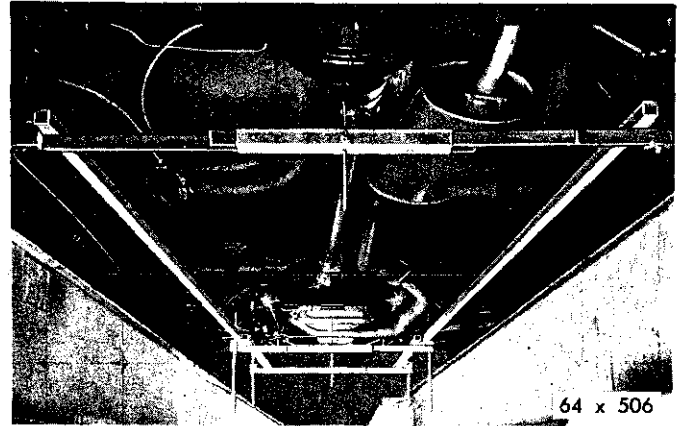
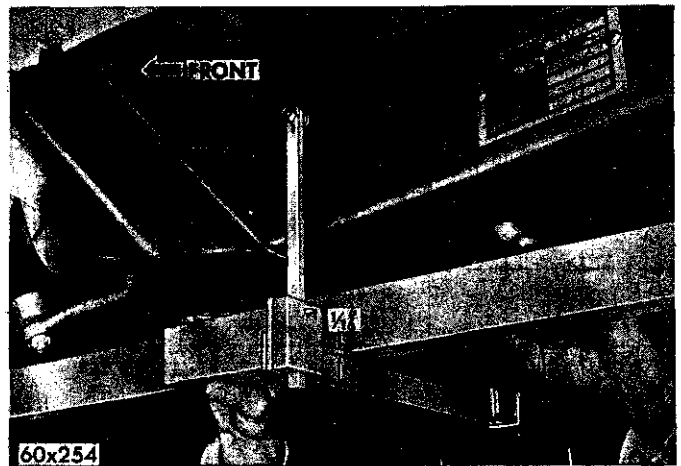

Fig. 15—Horizontal Measuring Bars in Position
Fig. 16—Measuring Body to Frame Alignment
(3) Place the horizontal alignment bars on the suspended gauges. The short bars are positioned on the front and center gauges and the long bars are positioned on the center and rear gauges, as shown in Figure 15.
(4) The long and short bar should be placed against each other to determine if any body to frame deflection is evident.
(5) The top and bottom surfaces of the horizontal bars should be perfectly level across their combined surfaces where they meet, however, if this condition is not prevailing, raise both the long and short bar as a unit until they are perfectly level.
(6) Measure the space, created by leveling the bars, between the bars and the center gauge (Fig. 16).